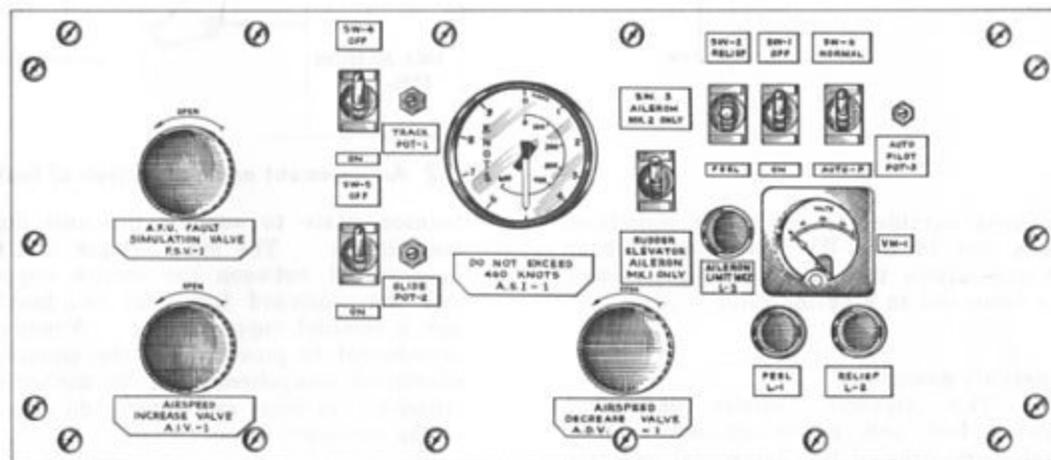

Fig.3 Control panel
12. The controls and indicators are mounted on the front panel as shown in fig.3. The system components are housed within the console and for access to them the front and rear panels are detachable. Six plugs and two stub pipes mounted on the left hand panel are suitably identified for connection of the extension cables and pneumatic pipes whereby the test systems are linked to the feel unit. Two terminals on the right hand panel are the connections for the electrical power supply.